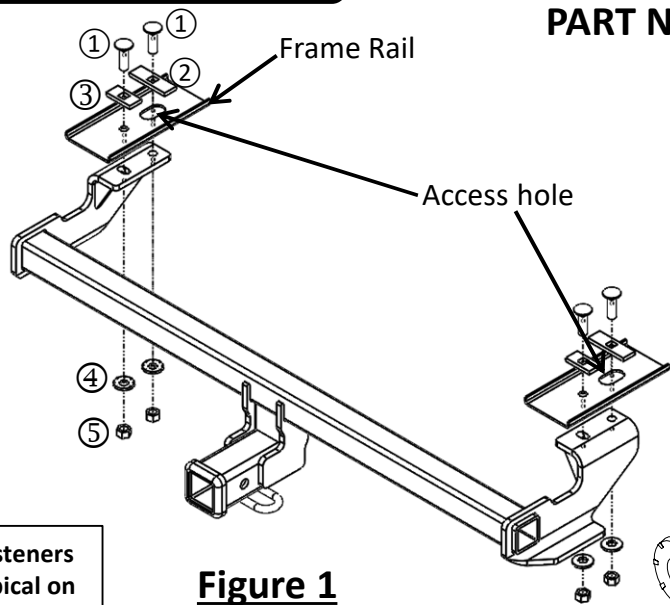

Figure 1
②	Qty. (2)	Spacer ¼"x1"x3"
③	Qty. (2)	Spacer ¼"x1"x2"
④	Qty. (4)	Conical washer 1/2"
⑤	Qty. (4)	Hex nut 1/2", GR5
⑥	Qty. (4)	Pullwire 1/2"-13
- Remove screws from fascia** - Use T15 torxbit to remove (2) screws (with clips) from the bottom of the fascia. **NOTE:** If underbody panel is present, use M10 socket to remove (3) plastic nuts from the forward edge of the underbody panel. Use a T25 remove (4) screws from the rearward edge of the underbody panel. Return to vehicle owner.
- Loosen wheel well liner** - Use T25 torxbit to remove (2) screws from bottom of driver side wheel well liner. Use T25 torxbit to remove (4) screws from the driver side wheel well liner. Use T25 torxbit to remove (1) screw from inside wheel well liner. Repeat this process for passenger side
- Remove taillight cover/light** - Use plastic trim tools to remove the plastic taillight cover from the driver side. Use T25 torxbit remove (2) screws behind the cover that was removed. Gently disconnect the taillight from the vehicle and set aside. Repeat this process for passenger side.
- Remove plastic cover** - Use flat head screwdriver to remove plastic cover below driver side taillight. Use T30 torxbit to remove (1) screw from under plastic cover. Repeat this process for passenger side.
- Enlarge access hole/Install hitch** - Use die grinder to enlarge the access hole so hardware will fit. Remove excess caulk from frame rail. Using pull wire, feed the carriage bolt and spacer into frame rails and bracket holes from access hole. Raise hitch into position and align holes with holes in frame rail. Remove pull wires and loosely install conical washers and hex nuts to hitch, see Figure 1.